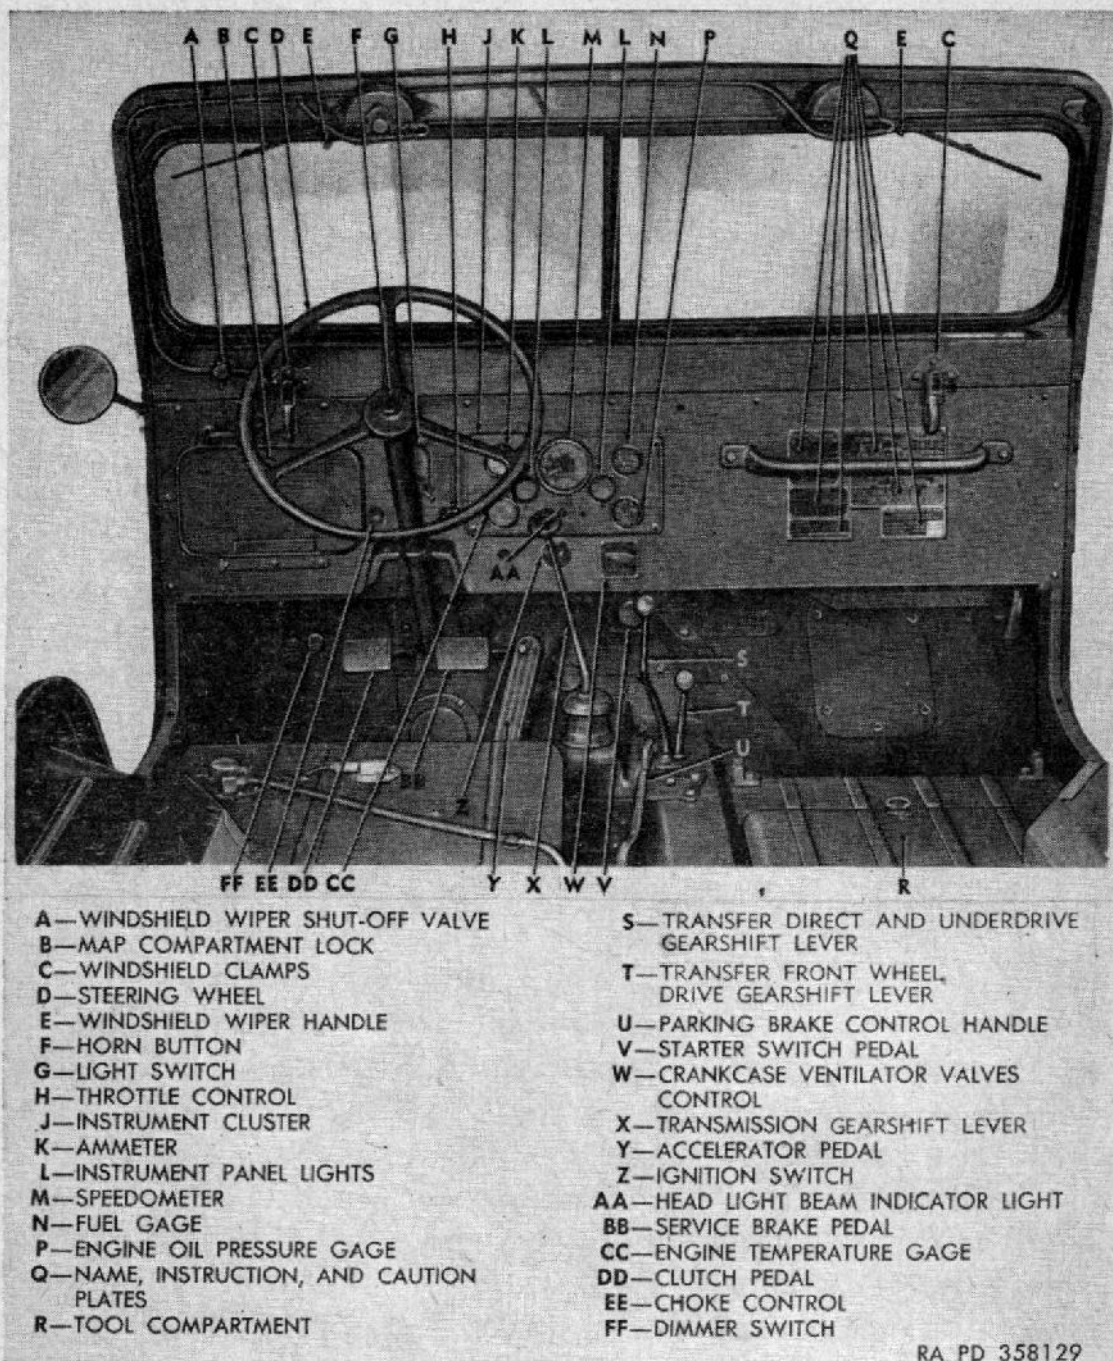
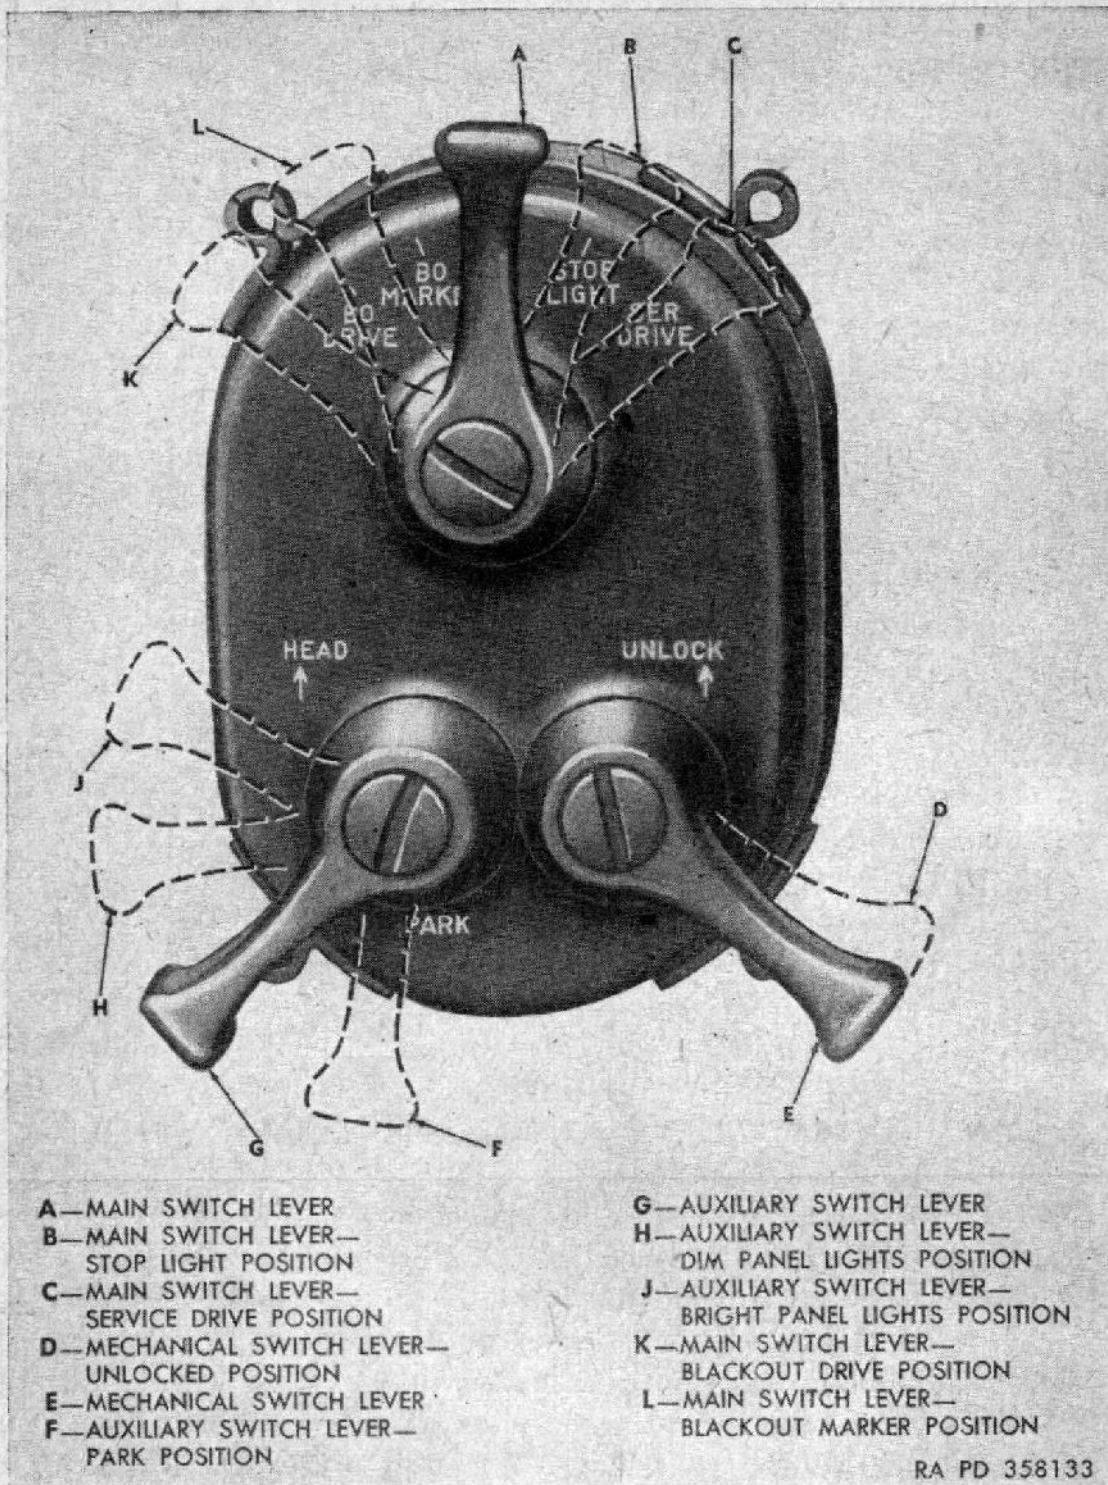

Figure 6. Driver's compartment—rear view.
Figure 9. Light switch positions.
*b.* All pedal and hand lever controls, instruments, gages, and switches are grouped in the driver's compartment (figs. 6 and 7) and are readily accessible to the driver for the operation of the vehicle. The major graduations, letters, figures, and pointer tips on all instruments and gages grouped in the instrument cluster (fig. 6) are coated with luminous paint for visibility during night operation.
The steering wheel (figs. 6 and 7) is located on the left side of the driving compartment. The purpose of this wheel is to turn the front wheels for the purpose of steering the vehicle. Degree of turn of the steering wheel is in proportion to turn of front wheels. The steering wheel should be turned clockwise when a right turn is desired and counterclockwise when a left turn is desired.
The service brake pedal (figs. 6 and 7) is located on the toe board to the right of the steering gear column and is accessible to the driver's
The clutch pedal (figs. 6 and 7) is located on the toe board at the left of the steering column and is accessible to the driver's left foot.
The accelerator pedal (figs. 6 and 7) is located on the toe board to the right of the brake pedal. The accelerator pedal controls the speed of the engine from idling to full speed, in varying degrees dependent upon the foot pressure applied. Designed for operation by the driver's right foot, the accelerator pedal will automatically return the engine to idling speed when foot pressure is released.
The starter switch pedal (fig. 6) is attached to the toe board and is located at the right of the accelerator pedal. This pedal, when de-
The transmission gearshift lever (figs. 6 and 7) is located in the transmission control lever housing on top of the transmission and extends upward into the passenger compartment. This shift lever provides manual control and selection of desired gears and speeds in the transmission. Gearshift lever may be moved to either of five various positions including neutral, indicated on the shifting instruction plate (fig. 4). Operation of the transmission gearshift lever will be found in paragraph 41.
The transfer direct and underdrive gearshift lever (figs. 6 and 7) is located on the transfer output shaft front bearing cap and extends upward into the passenger compartment to the right of the transmission gear shift lever. This gearshift lever provides for manual selection of auxiliary speed ranges in the transfer. The gearshift lever may be positioned in any one of three positions depending upon operating conditions. The shifting instruction plate (fig. 4) indicates positions of gearshift lever and paragraph 41 explains operation.
The transfer front wheel drive gearshift lever (figs. 6 and 7) is located on the transfer output shift front bearing cap and extends upward into the passenger compartment at the left of the transfer direct and underdrive gearshift lever. This gearshift lever controls the front driving axle drive selection. Shifting positions for this gearshift lever are indicated on the shifting instruction plate (fig. 4). Operation of the transfer front wheel drive gearshift lever is covered in paragraph 41.
The parking brake control handle (figs. 6 and 7) is located between the driver's and passenger's seats attached to the floor. This control handle actuates a mechanical parking brake on the rear of the transfer. To set parking brake, pull upward on parking brake control handle; to release it, press trigger on the handle and allow handle to
The throttle control (figs. 6 and 7) is located at the lower edge of the instrument panel at the right of the steering wheel and provides a hand operated control of engine speeds. It is primarily used to set the carburetor throttle at the desired starting and warm-up speed. To accelerate engine, pull throttle control out to desired position.
The choke control (fig. 6) is located at the lower edge of the instrument panel at the left of the steering wheel. This control is connected to the carburetor choke valve plate which closes in proportion to the degree the choke control is pulled out. The choke control is used when starting and operating a cold engine. Choke control must be pushed all the way in after engine is started and operating correctly.
The foot-operated dimmer switch (fig. 6) is located on the floor at the left of the clutch pedal, accessible to the driver's left foot. The dimmer switch controls the upper and lower beams of the service headlights. Use of this dimmer switch permits the driver to dim headlights when passing other vehicles and then return them to bright when needed. Dimmer switch is operated only when light switch is positioned (par. 41i (2)) on "SER DRIVE" (fig. 9).
The horn button (fig. 6) is located in the center of the steering wheel and is depressed to sound electric horn.
The windshield wiper shut-off valve (figs. 6 and 7) is located on the vacuum line to the left of the steering wheel above the instrument panel. This shut-off valve controls the engine vacuum required to operate both windshield wiper motors. To operate windshield wipers, turn shut-off valve counterclockwise. Turn shut-off valve clockwise to shut windshield wipers off. A windshield wiper handle (fig. 6) is mounted on each windshield motor for manual operation of the
A lever type ignition switch (figs. 6 and 7) is mounted on the instrument panel, directly below the instrument cluster. The ignition switch lever must be turned to the left to complete the ignition circuit before the engine can be started. When the ignition circuit is completed, all electrical gages in the instrument cluster (fig. 6) will become energized, permitting readings of their values. Operation of ignition switch in conjunction with starting the engine and stopping the engine is contained in paragraphs 40 and 41.
The light switch (figs. 6 and 7) is located on the instrument panel directly above the steering column. Three levers are provided on the light switch to control the various lighting circuits. The light switch controls all the lights provided on the vehicle. Operation of light switch is explained in paragraph 41*i*. Purpose of the various levers is explained below:
The speedometer (fig. 6) is located on the instrument panel in the center of the instrument cluster and registers the vehicle's speed in miles per hour. The odometer in the center of the speedometer, registers the accumulated miles the vehicle has been driven.
The ammeter (fig. 6) is located in the upper left corner of the instrument cluster. This ammeter is in effect an indicator showing the activity and condition of the generator charging circuit. A slight "charge" should be indicated under normal operating conditions. For a short time immediately after starting the engine, a slightly higher "charge" will be indicated on the ammeter until the current used to start the engine is replaced in the battery by the generator.
The fuel gage (fig. 6) is located in the upper right corner of the instrument cluster. The fuel gage indicates the level of fuel in the fuel tank. Fuel gage dial face is graduated in quarters from E (empty) to F (full).
The engine oil pressure gage (fig. 6) is located in the lower right corner of the instrument cluster. The dial face of the engine oil pressure gage is marked from 0 to 120 psi in graduations of 30 psi. This gage indicates the pressure of the engine oil when the engine is running.
The engine temperature gage (fig. 6) is located in the lower left corner of the instrument cluster. The dial face of the engine temperature gage is marked from 60° to 260° F. in graduations of 40° F. This gage indicates the temperature of the engine coolant and is actuated by a sending unit mounted on the engine. Normal operating temperature is 160° to 180° F. If temperature gage indicates excessively high or low readings, it indicates either a faulty cooling system or defective gage circuit. Stop engine immediately and investigate cause.
The two instrument panel lights (fig. 6) are located on the instrument cluster below, and one to either side of the speedometer. The purpose of the instrument panel lights are to provide illumination for the instruments and gages during night operation. Instrument panel lights (fig. 9) are actuated by the auxiliary switch lever on the light switch (par. 41). Three positions on the light switch permits instrument panel lights to be turned either off, on dim, or on bright. Metal shields over the panel light lamp prevents reflection during night operation.
The headlight beam indicator light (fig. 6) is located in the instrument cluster below the speedometer. The purpose of this indicator light is to indicate when the high beam of the headlights are on. Indicator light will go out when headlights are returned to low beam by operating the dimmer switch.
Two windshield clamps (figs. 6 and 7) are provided on the windshield assembly to hold the windshield assembly in the vertical position. The windshield clamp engages with a catch on the instrument panel. To lower windshield, pull clamp out at the bottom to disengage it from catch.
The map compartment lock (figs. 6 and 7) is located on the map compartment door to the extreme left of the instrument panel. The map compartment lock permits latching of the map compartment door providing access to the map compartment. To open map compartment door, press button in center of lock and pull door open. Map compartment lock will automatically latch when the door is closed.
The crankcase ventilator valves control (figs. 6 and 7) is located on the instrument panel below the instrument cluster. This control is provided for the driver to seal the crankcase for under-water operation, when the fording kit is installed, without lifting the hood. To operate crankcase ventilator valves, follow instructions on the crankcase ventilator valves control instruction plate (fig. 8) attached to the instrument panel.
b. Position the transmission gearshift lever (figs. 6 and 7) in the neutral position indicated on the shifting instruction plate (fig. 4).
c. Pull the throttle control (figs. 6 and 7) out approximately three-quarters to one inch.
d. Pull the choke control (fig. 6) all the way out.